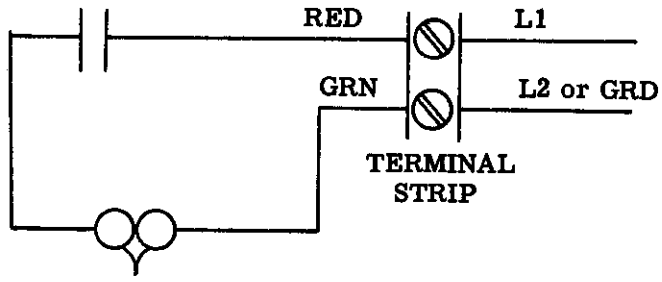

Figure 2. Wiring Diagram of Loud Extension Bell.
3.04 Figure 2 is a wiring diagram of the loud extension bell. To connect the bell to the line, remove bell housing cover; this provides